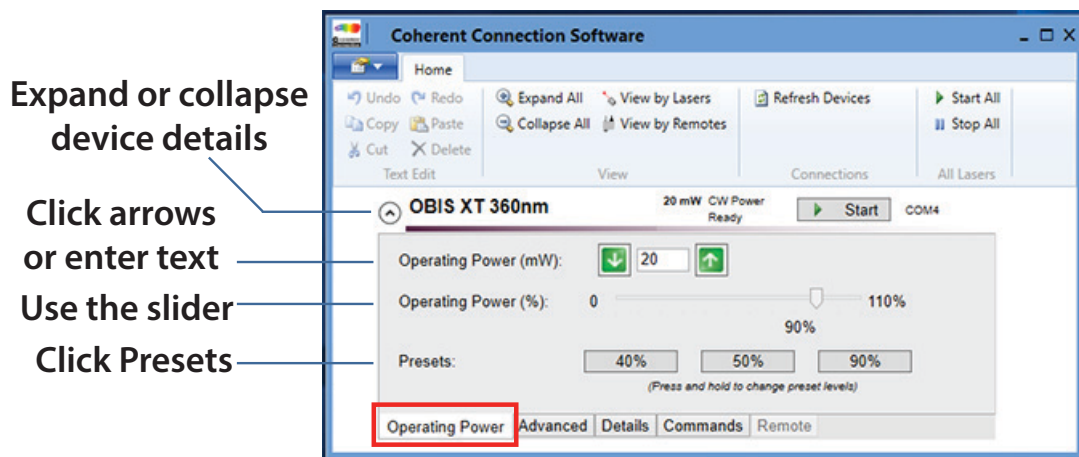

Figure 4-25. Operating Power Tab
Figure 4-25 shows the Operating Power tab window, expanded, with details about a 100 mW OBIS XT laser in Continuous Wave (CW) Mode, ready but not emitting.